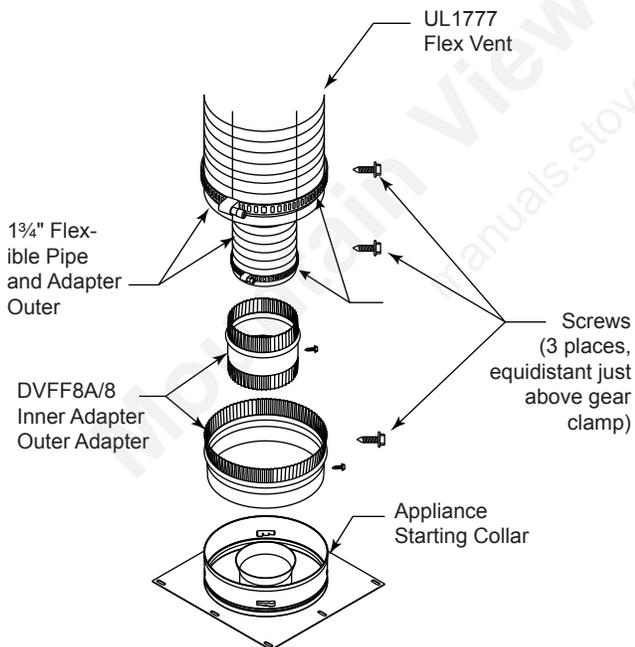

Figure 41 - Typical 5" x 8" Appliance Connection
2. The flex adapter starter kit (DVFF8A/8) is used to attach flex venting to the appliance starting collar. It includes 5" inner and 8" outer adapter rings. *Figure 41*
- A. Installing the inner flex adapter and pipe. *Figure 41*
- B. Installing the outer flex pipe. *Figure 41*